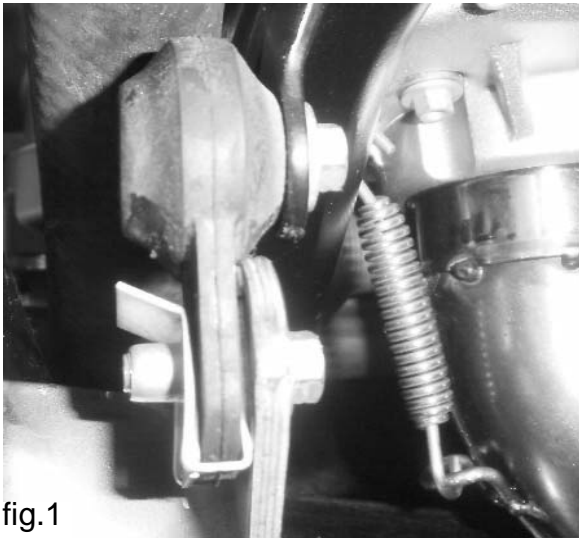

fig.1
9. Remove the clip from the front mount on the stock pipe and install onto the front rubber hanger. Your FMF pipe will mount on the inside of the hanger (fig.1).
14. Install the front pipe mounting bolt removed in step #5 (fig.1); do not tighten at this time.